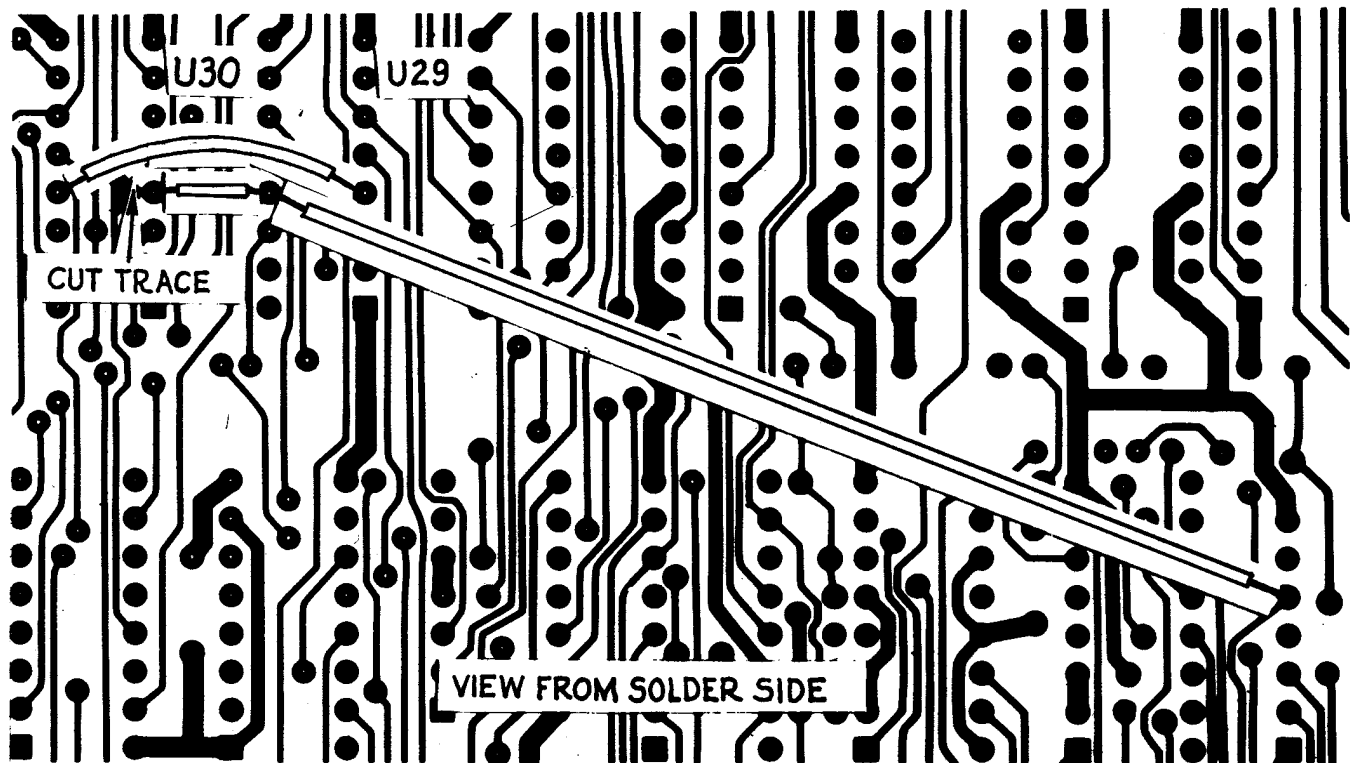

Figure 4
- 2) On a "REV F" 16KRA or "REV B" 32KRA, cut the trace on the solder side that goes to U30-pin 4, adjacent to pin 4's pad, as shown in Figure 4. On a "REV D" or "REV E" 16KRA there are two traces to pin 4, instead of the triangle of copper shown. Cut both traces, and solder a jumper on the solder side between U50-pin 13 and U10-pin 13.
- 3) Using 30 AWG solid insulated wire, install the three jumpers on the solder side shown in Figure 4. They connect: